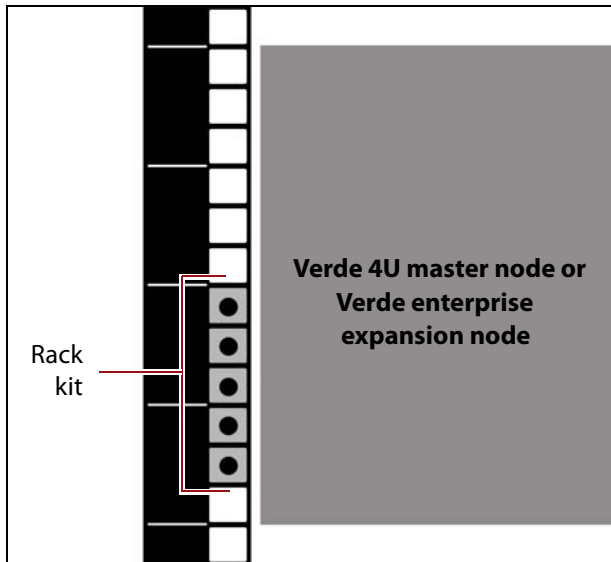
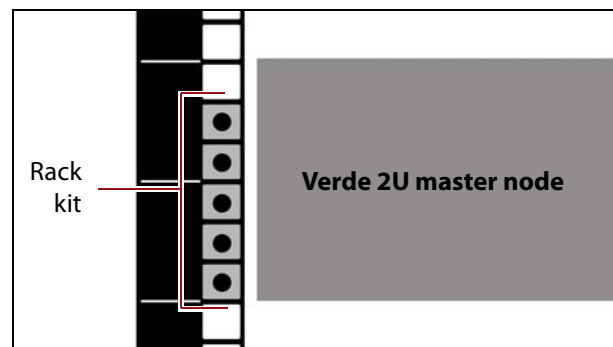

Figure 29 Relationship between rack kit position and the position of the 4U chassis.
Figure 30 Relationship between rack kit position and the position of the 2U chassis.
6. Determine the position of the rack mount kit in the rack. Figure 29 and Figure 30 show the relationship of the rack kit position in the rack and the resulting position of the chassis.